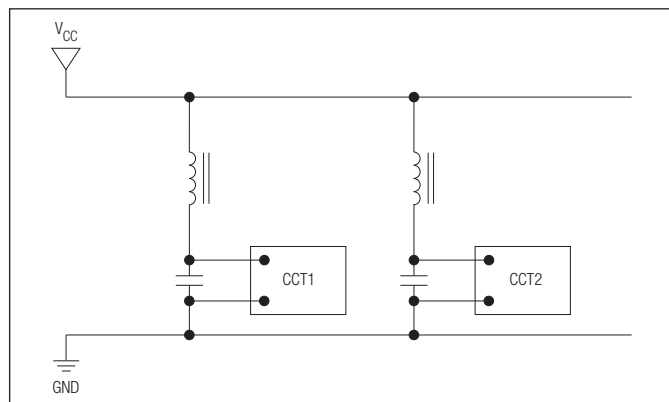

Figure 19: Decouple Supply Lines at Local Boundaries
- Decouple supply lines at local boundaries (use LC filters with low Q, see figure 19).